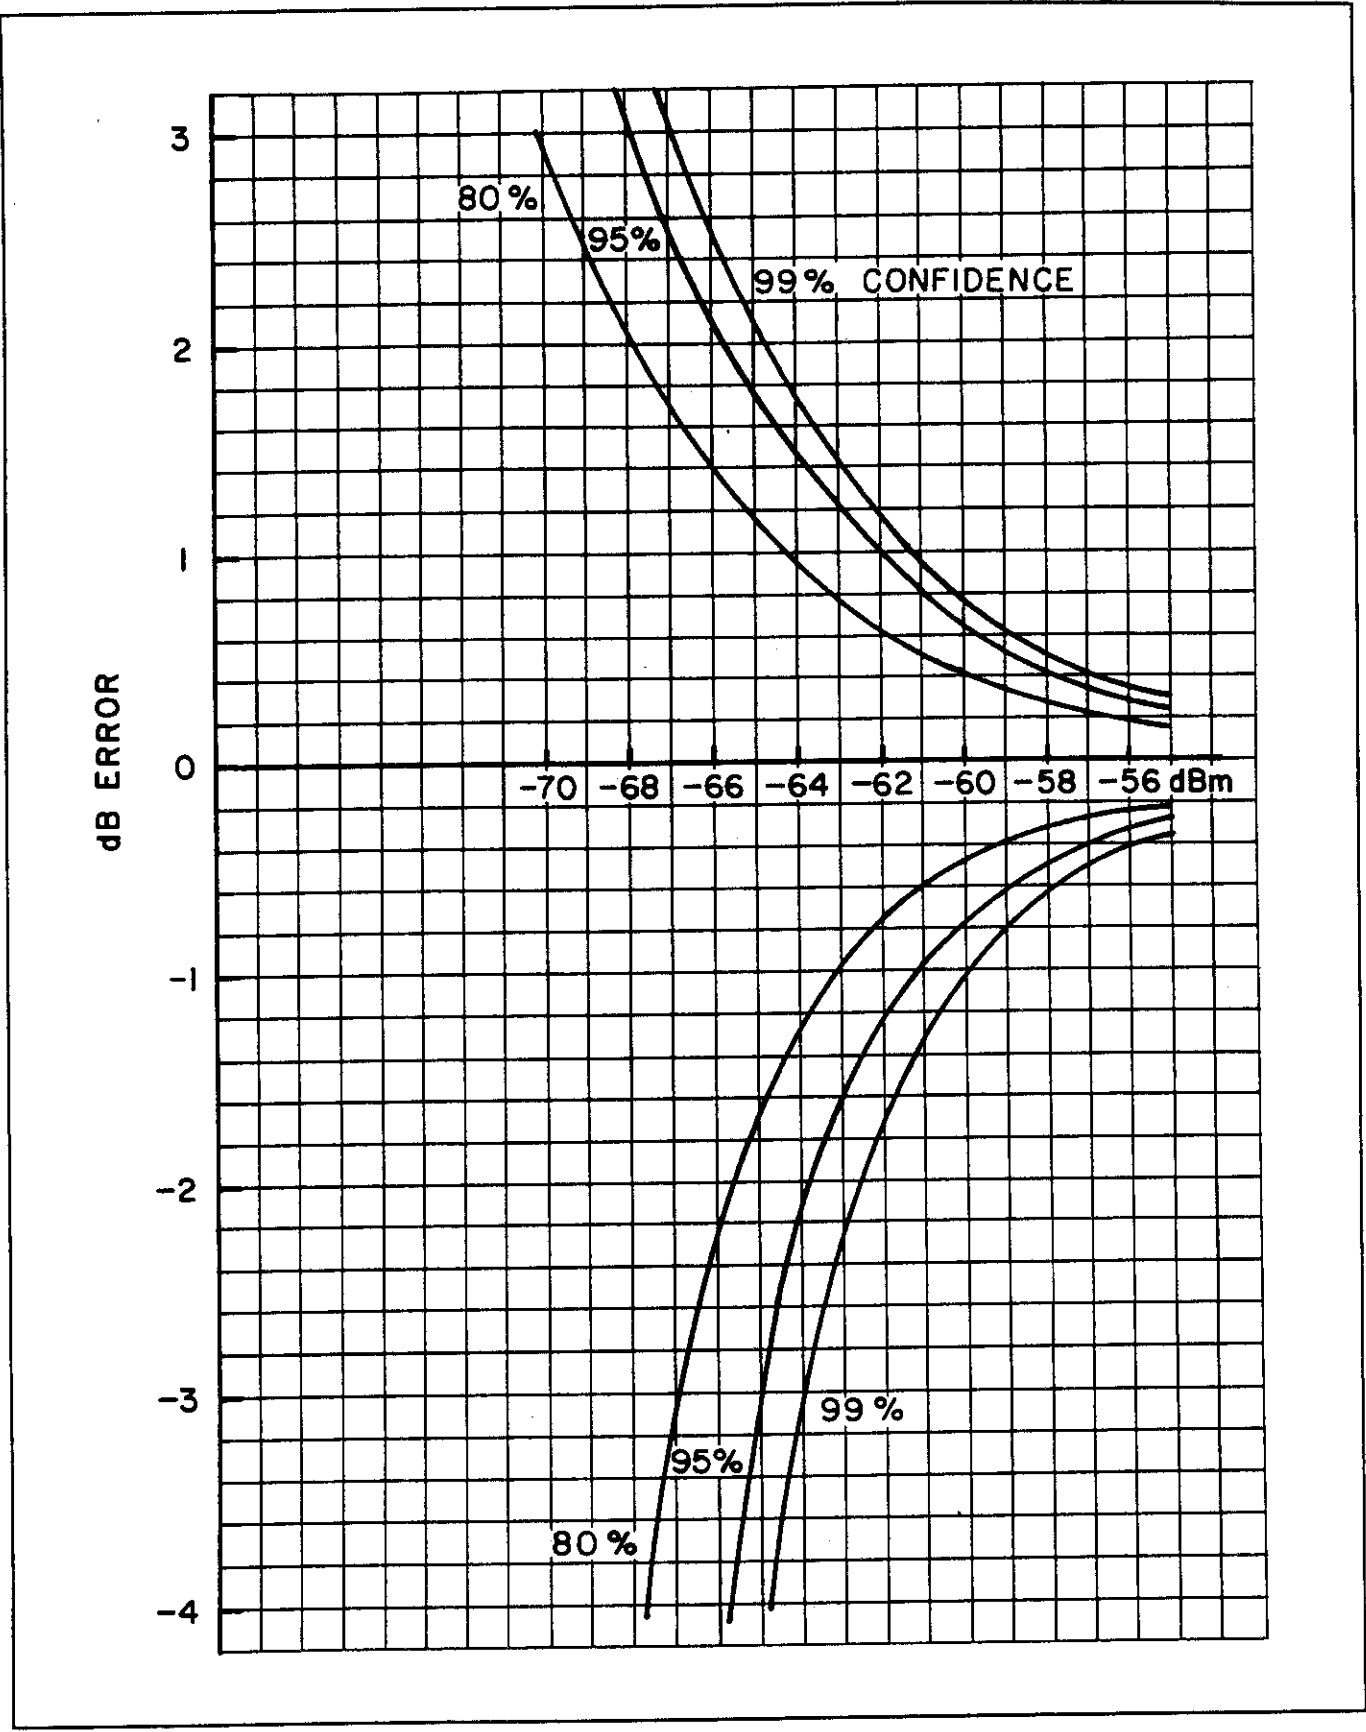

Figure 4-11. 51013 Sensor With 2.8 Second Filter
3. **Noise Error Examples.** Figures 4-11 and 4-12 show the computed error for the 51013 diode sensor at different power levels, for 2.8 and 10 second filters. To achieve these results, the sensor must be at a stable temperature and zeroing must be done immediately before the measurement is taken.